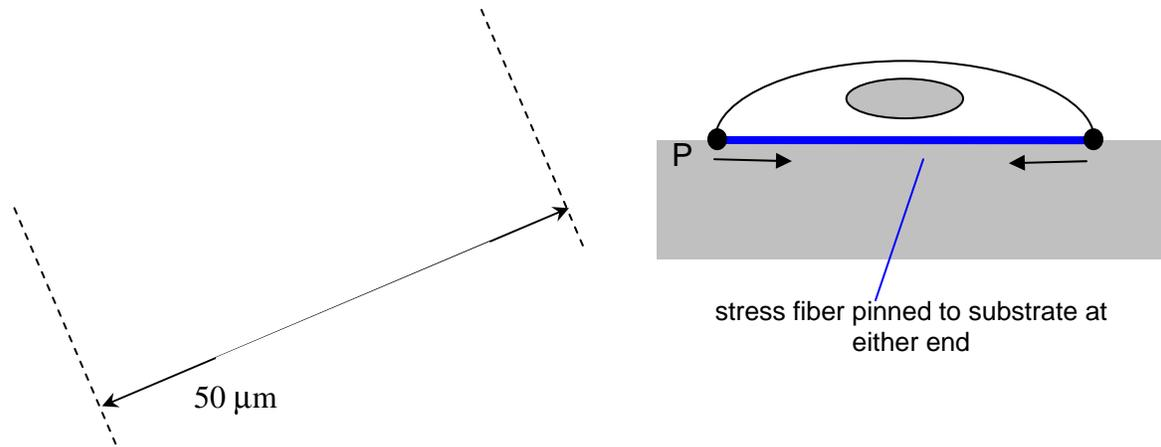

Figure 3: Structural elements of cells under axial end-loads.
3. Bundles of protein filaments inside tissue cells are structural elements that can generate contractile force against the materials to which they adhere. Figure 3 shows struts called “stress fibers” that extend from one end of the cell to the other. These fibers are made of crosslinked, filamentous actin, with an average diameter of $2\ \mu\text{m}$ and an effective “stiffness” E of $16\ \text{kN/m}^2$.